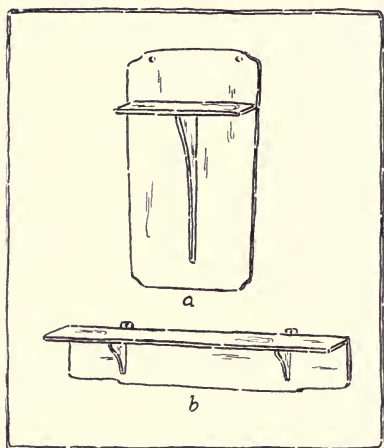

Fig. 276. Wall Brackets, Double-Hung:
*Wall Brackets.* (1) There are three essential parts, the shelf, the support or supports, and the back: the shelf to hold the articles, the support to hold up the shelf, and the back to hold all together, Fig. 276, *a*. The grain of the wood in the shelf should run left and right, not forward and back, because thus it rests on the support in such a way as not to break easily, and it also acts as a stiffener for the back. In case the back extends above the shelf, as in Fig. 276, *a*, the shelf can be secured firmly to the back, since there is side grain in which to drive nails or screws. As to the direction of the grain of the support and the back, this should run in the direction of the largest dimension of each. Where the back is long horizontally, for security in hanging, it is better to have two supports.10